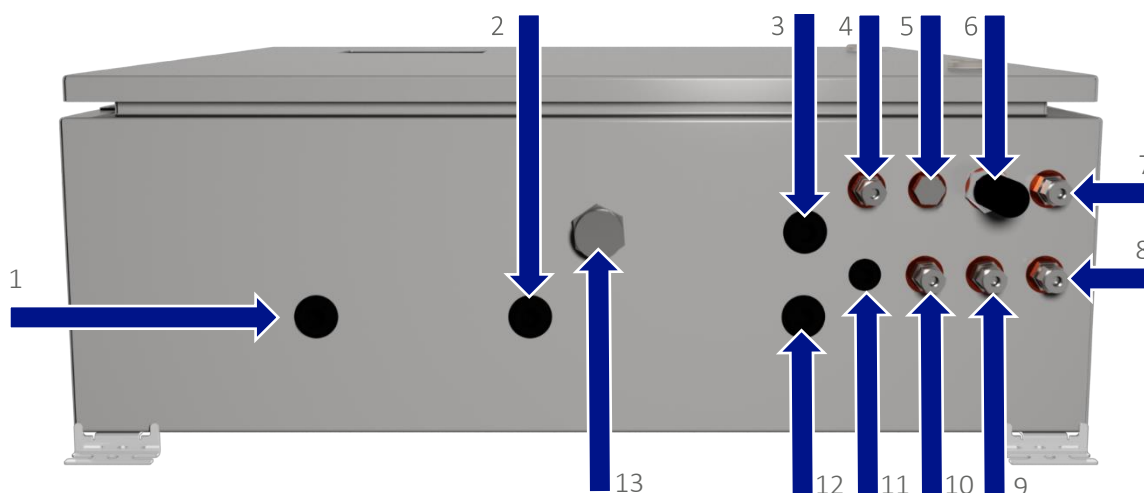
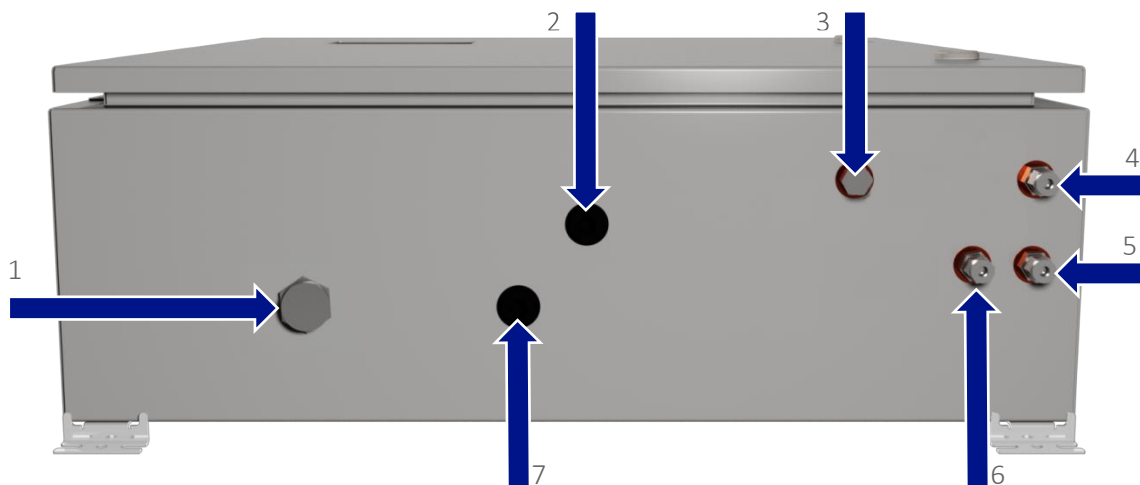

Figure 5 - BIOMETHANE 3000 customer connections
Figure 6 – Auto-calibration customer connections
- Compression fittings – found on the bulkheads on the enclosure base (see annotations 4, 5, and 7-11 on Figure 5 - BIOMETHANE 3000 customer connections and annotation 4-6 on Figure 6 – Auto-calibration customer connections).
There is an enclosure breather fitted to the BIOMETHANE 3000 situated at the base of the enclosure (see annotation 13 on Figure 5 - BIOMETHANE 3000 customer connections). It is the user's responsibility to ensure that there is a free circulation of air around the cabinet.
There are two enclosure breathers fitted to the auto-calibration system, situated at the base of the enclosure (see annotation 1 on Figure 6 – Auto-calibration customer connections) and the right hand side of the enclosure. It is the user's responsibility to ensure that there is a free circulation of air around the cabinet.
The installation will require the operator to connect a mains cable, output cable, relay cable, pressure transducer cable, drain, and gas pipes to the equipment. Figure 5 - BIOMETHANE 3000 customer connections identifies the available connection points on the BIOMETHANE 3000:
- The sample tube should be connected to the bulkhead connector labelled 'SAMPLE GAS 1' – see annotation 4 on Figure 5 - BIOMETHANE 3000 customer connections.
- The gas exhaust line should be connected to the bulkhead connector labelled 'PROCESS RETURN' – see annotation 7 on Figure 5 - BIOMETHANE 3000 customer connections.
- The sample tube should be connected to the bulkhead connector labelled 'AUTO-CAL IN' – see annotation 10 on Figure 5 - BIOMETHANE 3000 customer connections.
If uncontaminated air cannot be guaranteed at the location of the analyser, the particulate filter should be removed and a pipe should be connected in its place and terminated at a point where uncontaminated air is present. The sample tube should be connected to the bulkhead connector labelled 'AIR IN' – see annotation 6 on Figure 5 - BIOMETHANE 3000 customer connections.
- The sample tube should be connected to the bulkhead connector labelled 'VENT TO ATMOSPHERE' – see annotation 9 on Figure 5 - BIOMETHANE 3000 customer connections.
- The drain line should be connected to the bulkhead connector labelled 'DRAIN' – see annotation 8 on Figure 5 - BIOMETHANE 3000 customer connections.
- The gas line will need routing from the gas bottle regulator to the auto-calibration system, connected to the bulkhead connector labelled 'CALIBRATION GAS IN' – see annotation 3 on Figure 6 – Auto-calibration customer connections.
- The gas line will need connecting to the bulkhead connector labelled 'CALIBRATION GAS OUT' – see annotations 6 on Figure 6 – Auto-calibration customer connections.